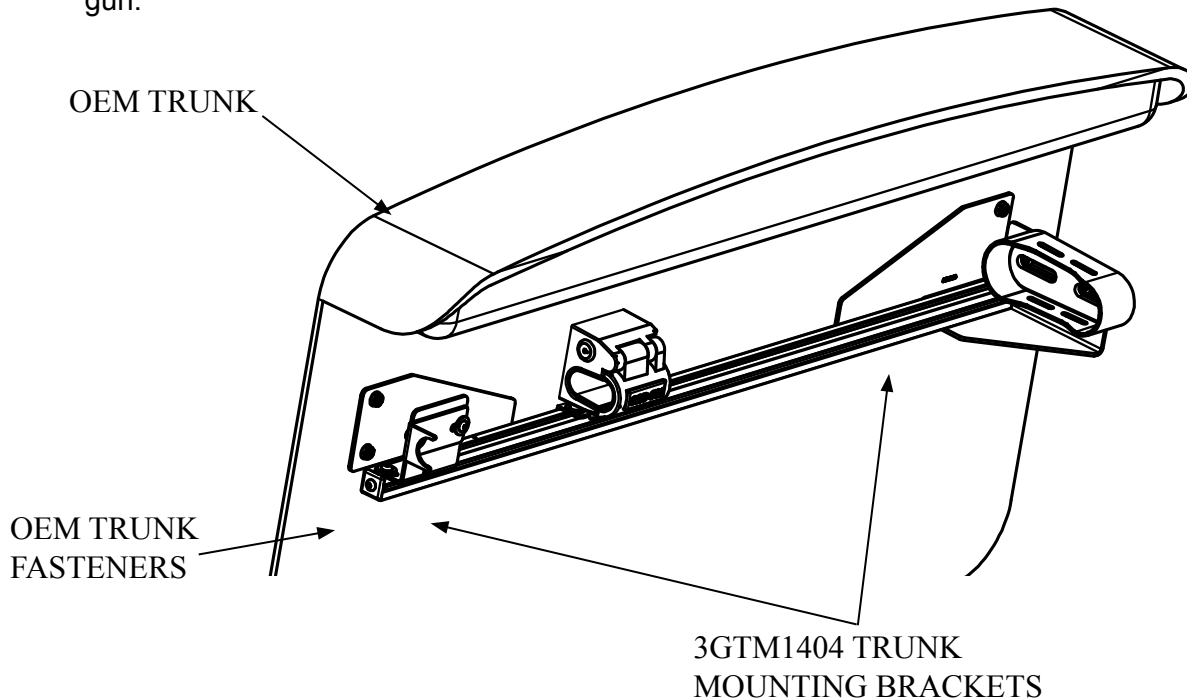

Fig. 1
- A. Open the trunk of the vehicle, and find the openings in the truck to allow the two 3G131 brackets to go into place. Carefully slide the brackets into place, so that the studs line up with two corresponding OEM hole locations. Once this is done, place the 3GTM1404 mounting brackets into place and attach them with (3X16) nuts. Remove the end cap from the rack, and slide the rack onto the the "T" nuts that are already attached to the brackets until the rack is centered with the trunk lid. Tighten the "T" nuts securely with an allen wrench. (See Fig. 1)